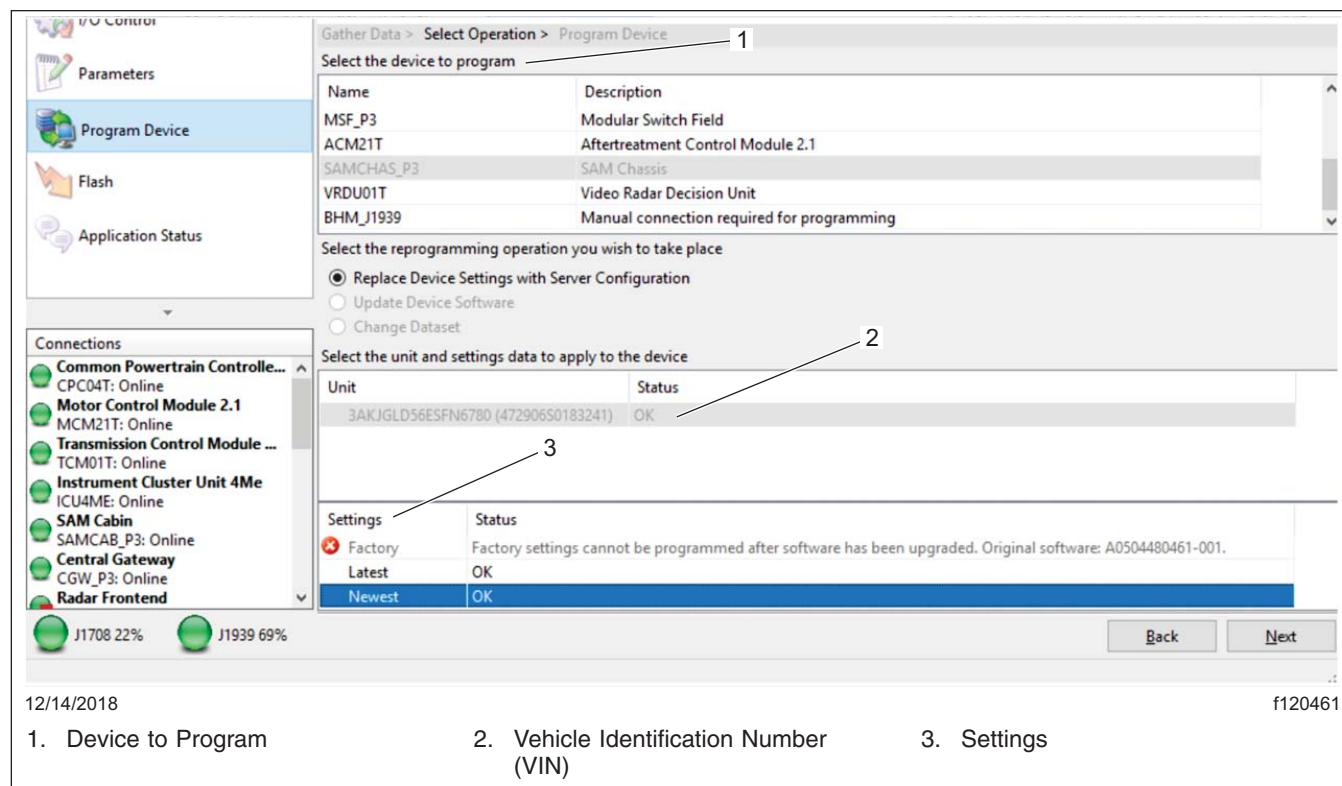

Fig. 10, Selecting "Latest" or "Newest" Software
10. Select the controller to program, select the VIN, and select either "Latest" or "Newest." Click "Next." See **Fig. 10**.